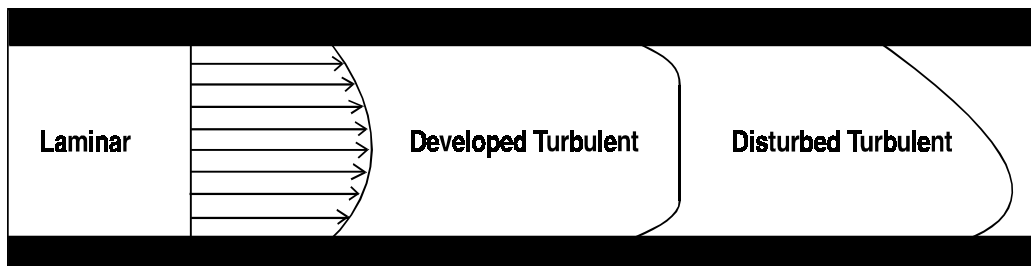

Figure 2
- Knowledge of the flow profiles shown in Figure 2 is important for proper calibration and placement of a flow sensor in a pipe.